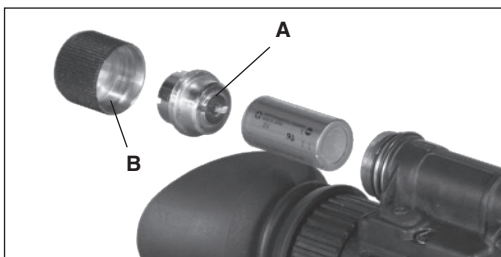

Figure 4.1
With the battery adapter (A) screwed in as shown on Figure 4.1 you may use one CR123A 3V lithium battery.